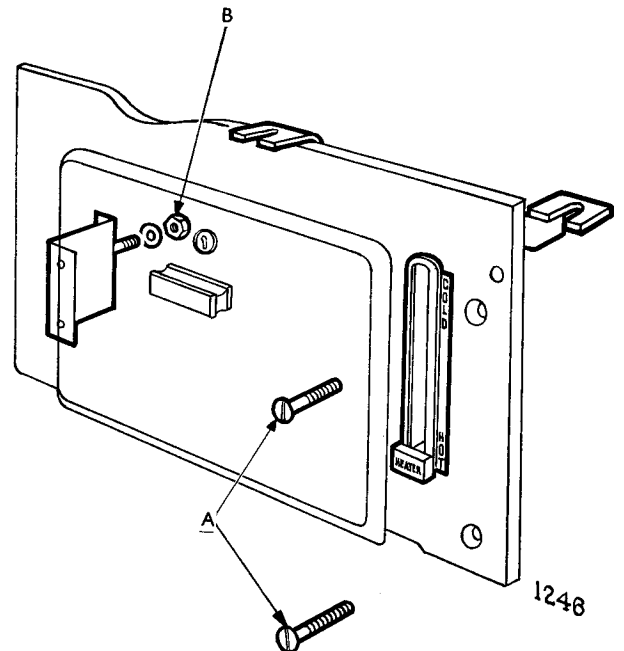

Fig. 4. Removal of left-hand glovebox.
Remove the two screws (A, Fig. 4) securing the glovebox to the dash and the nut (B) and washer from the securing bracket at the rear of the glovebox.